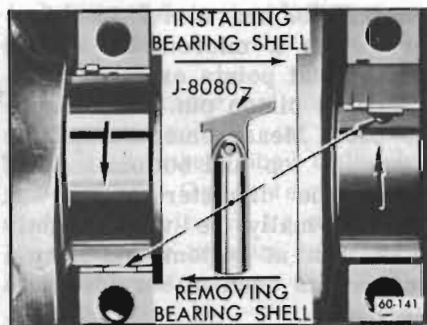

Figure 60-326—Removing and Installing Crankshaft Bearing Upper Shell
7. Remove upper bearing shell by inserting Bearing Shell Remover and Installer J-8080 in oil hole in crankshaft, then slowly turning crankshaft so that the tool rotates the shell out of place by pushing against the end without the tang. See Figure 60-326.